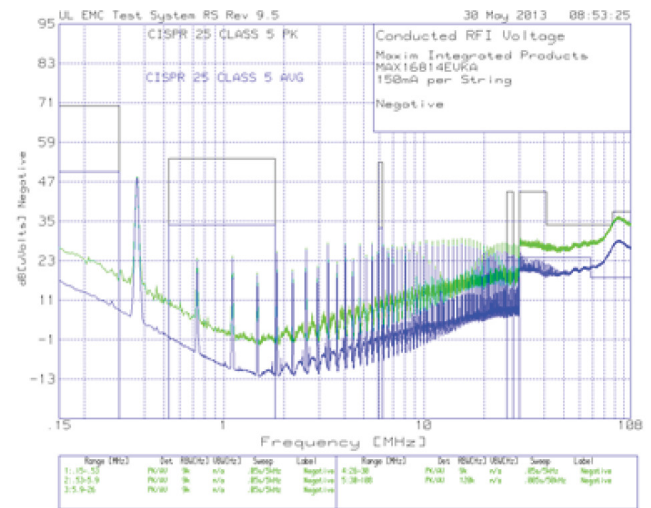
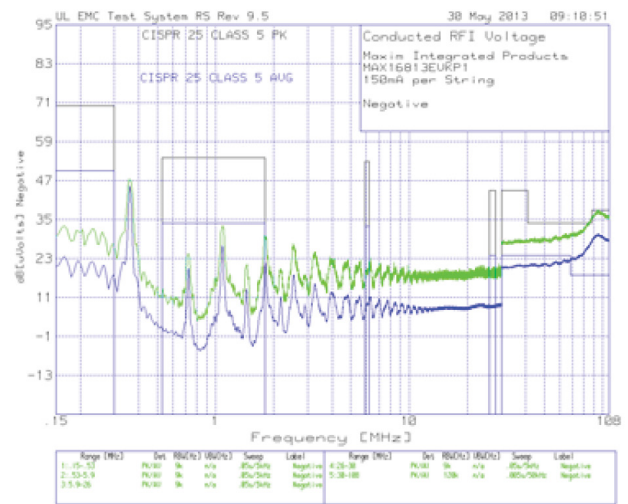

Figure 4. Device Without Spread-Spectrum
Figure 5. Device with Spread-Spectrum
Spread-spectrum (SS) modulation is often necessary to meet EMI standards. Figure 4 (shows a device without SS) and Figure 5 (shows a device with SS) illustrate the effect of spread-spectrum. In Figure 5, SS reduces the harmonic peak energy by 'spreading' the noise power over a wider band. In this example, the switching frequency is 400kHz, which is below the AM band, and the EM (electromagnetic) noise reduction is above 10dB.